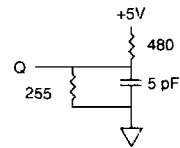

Fig. 2 OUTPUT LOAD EQUIVALENT
6. ^tLZCE, ^tLZWE, ^tHZCE and ^tHZWE are specified with CL = 5 pF as in Fig. 2. Transition is measured ±200mV typical from steady state voltage, allowing for actual tester RC time constant.